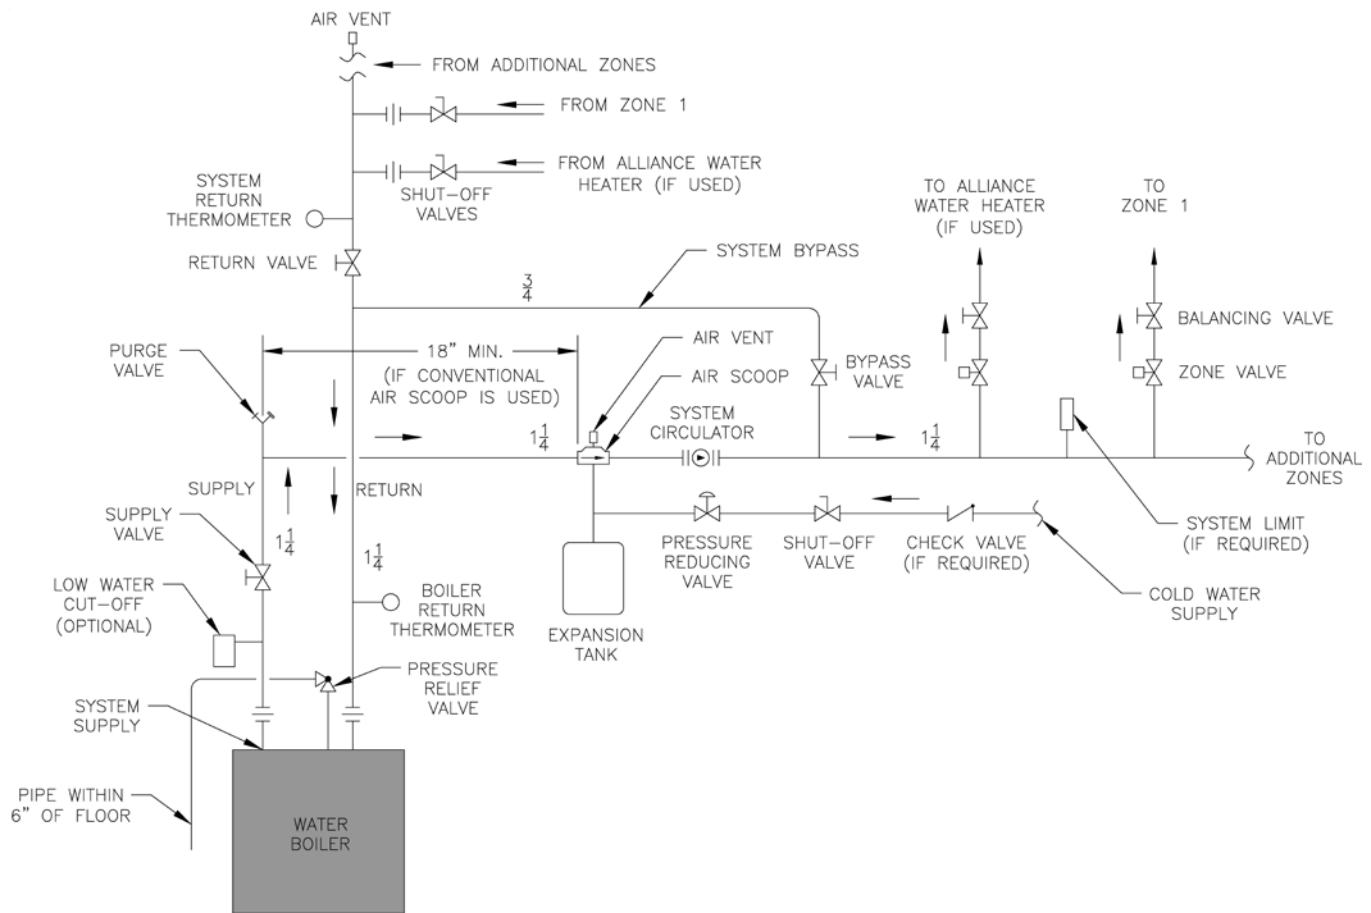

Figure 5: Recommended Water Piping for Zone Valve Zoned Heating Systems
2. Tilt boiler, "walk" boiler backward, and set rear legs down on floor. Tilt boiler backward, pull skid forward and set front legs down on edge of skid. Install close nipple, tee, and plug in return coupling. See Section III and Figure 5. Point tee toward permanent return location.
B. Connect System supply and return piping to boiler. See Figures 5 and 7. Also consult I=B=R Installation and Piping Guides. Maintain minimum ½ inch clearance from hot water piping to combustible materials.
The bypass should be the same size as the supply and return lines with valves located in the bypass and return line as illustrated in Figures 5 and 7 in order to regulate water flow for maintenance of higher boiler water temperature.
- C. Install Safety Relief Valve.** See Figures 5 and 7. Safety Relief Valve must be installed with spindle in vertical position. Installation of the relief valve must be consistent with the ANSI/ASME Boiler and Pressure Vessel Code, Section IV.
D. Install Drain Valve in return piping. See Figure 5.
G. Fill entire heating system with water and vent air from system. Use the following procedure on a Series Loop System equipped with zone valves. (See Figure 5).